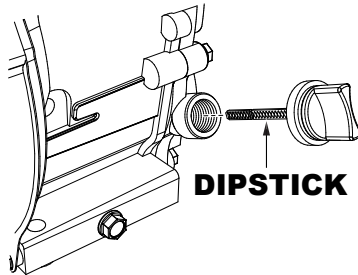

Figure 11. Engine Oil Dipstick Removal
2. Remove the filler dipstick from the engine oil filler hole (Figure 11) and wipe clean.